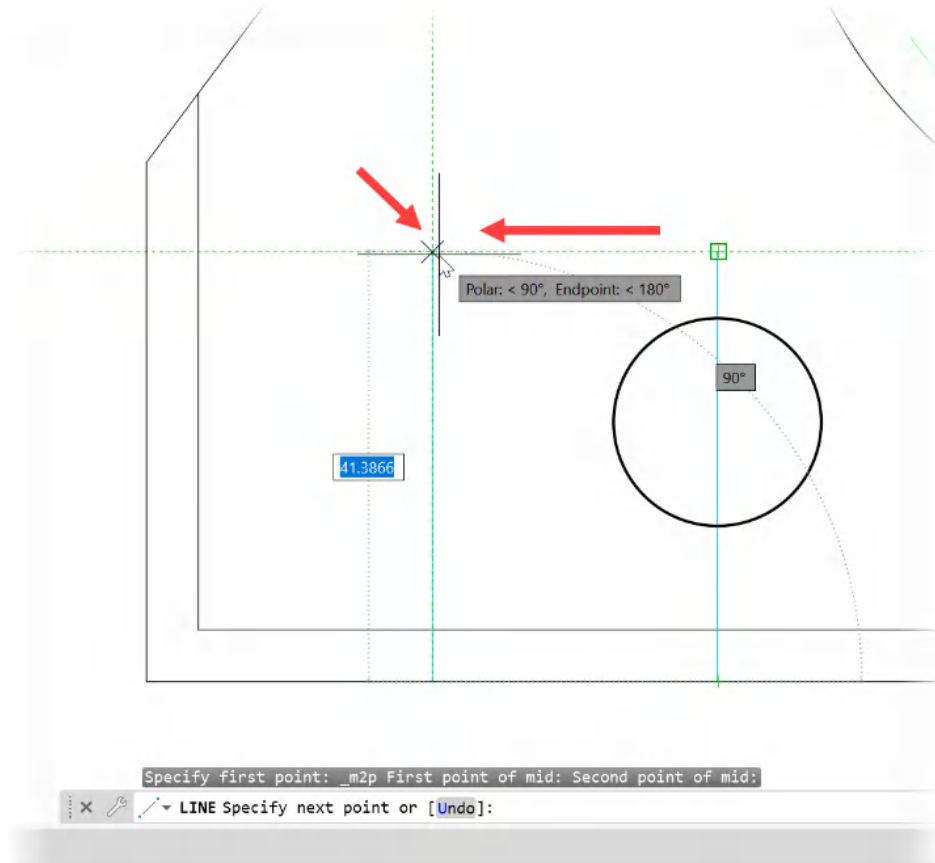

Figure 5.24: Moving to the left (arrowed) to create the Object Snap Tracking point for the second point (endpoint) of the new centerline
7. Remember not to click on it, and then drag your mouse to the left, as shown in *Figure 5.24*: